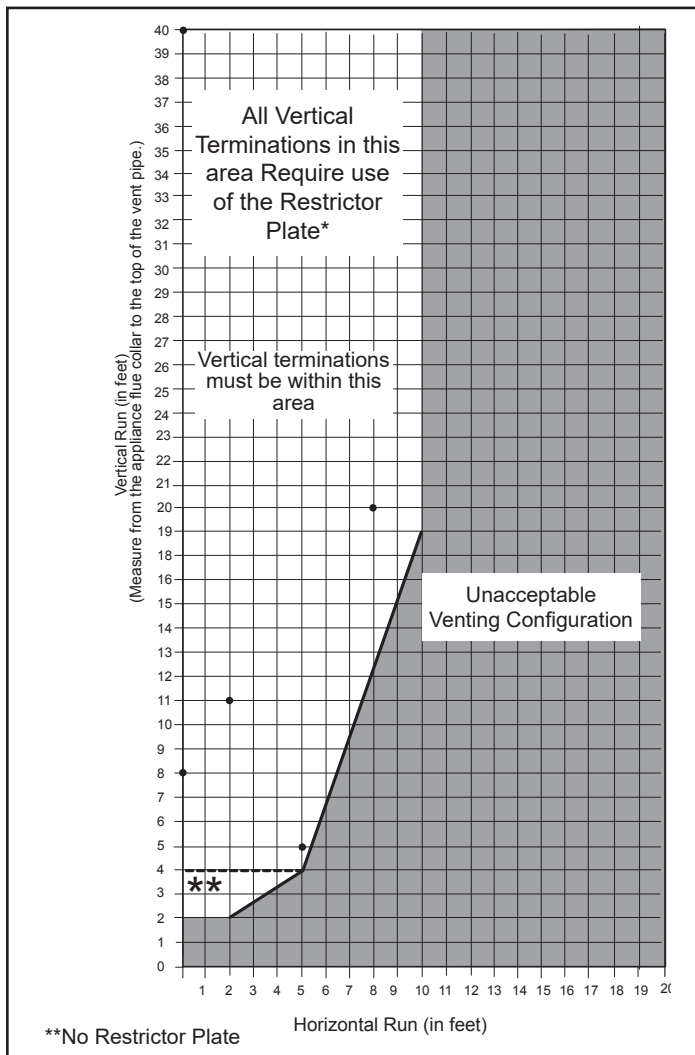

Figure 2.8 - Vertical vent termination window.
A vertical vent system must terminate no less than 8' (2.44 m) and no more than 40' (12 m) above the appliance flue collar. A restrictor plate (supplied) must be used, where specified, in all vertically terminated vent systems. (Refer to Figure 2.8) NOTE: The restrictor plate supplied with the vertical termination should be discarded. Adjust the restrictor plate according to recommendations in Figure 2.10. A vertically terminated vent system must also conform to the following criteria:
- Termination height must conform to roof clearance as specified in Figure 2.8.